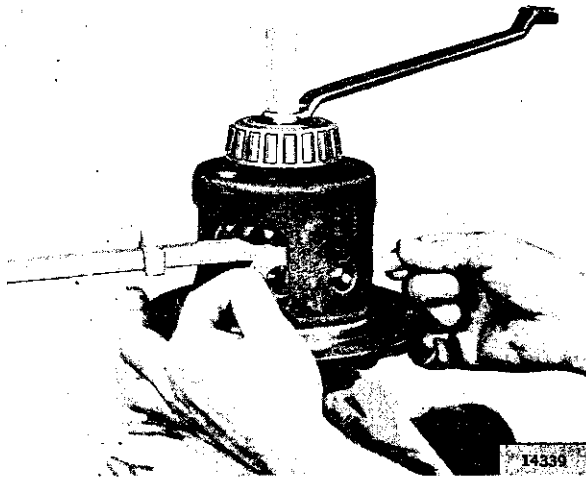

FIG. N-49—REMOVING PINION MATE WASHERS
n. Remove both pinion mate spherical washers. Use a shim stock of .030" [0,762 mm.] thickness or an equivalent tool to push out the spherical washers. Relieve the tension of the Belleville spring by loosening the forcing screw. Refer to Fig. N-49.